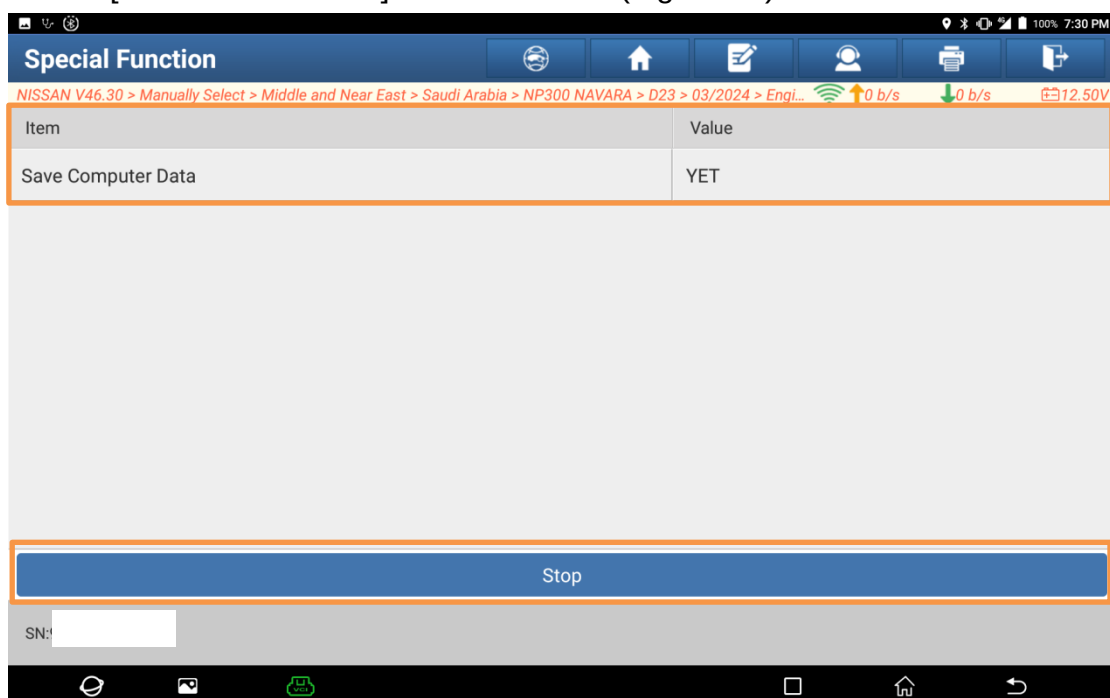
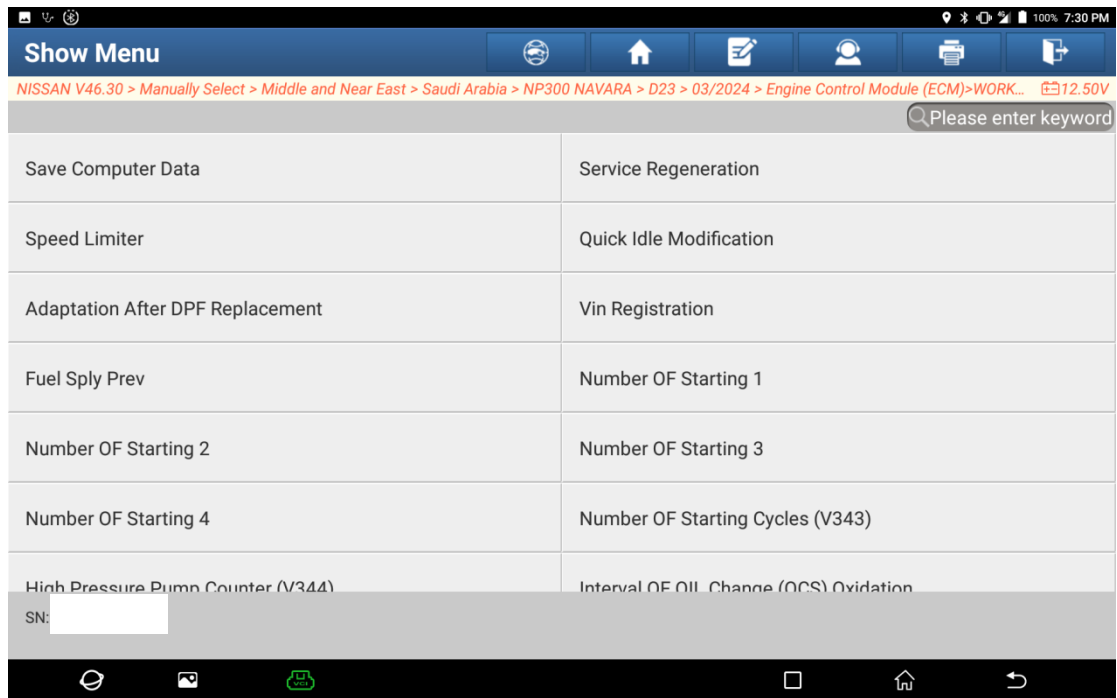

Figure 16
Figure 17
10. After a period of time, the diagnostic tool will display the function completion interface shown in Figure 16. Click the "Stop" button to return to the [WORK SUPPORT] menu interface (Figure 17).